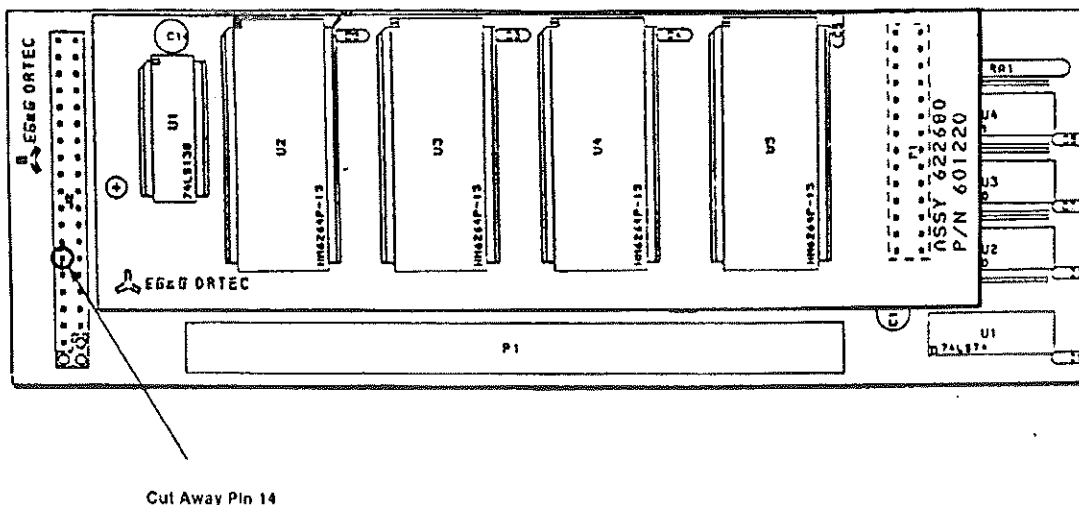

Fig. F.2. Revision to 918-OPT 5 for 92X Compatibility.
3. Cut off pin 14 as close to the header as possible. Pin 14 is located in the row of pins nearest the edge of the board and counted from the top of the board. See Fig. F.2.